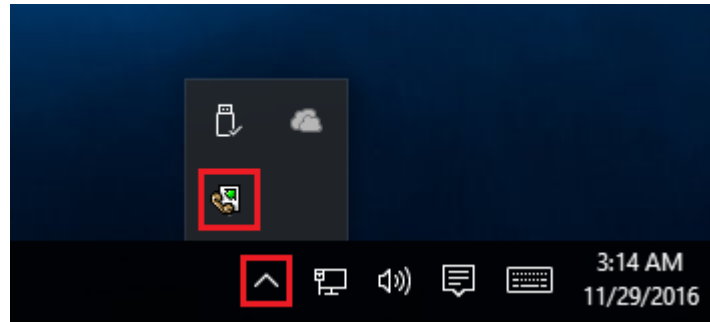

Fig. 6.1.2 Systray - panel near clock
- **Start in minimized state** - at start GPS Tracker Data Logger will automatically put its icon on panel near clock (SysTray fig. 6.1.2);